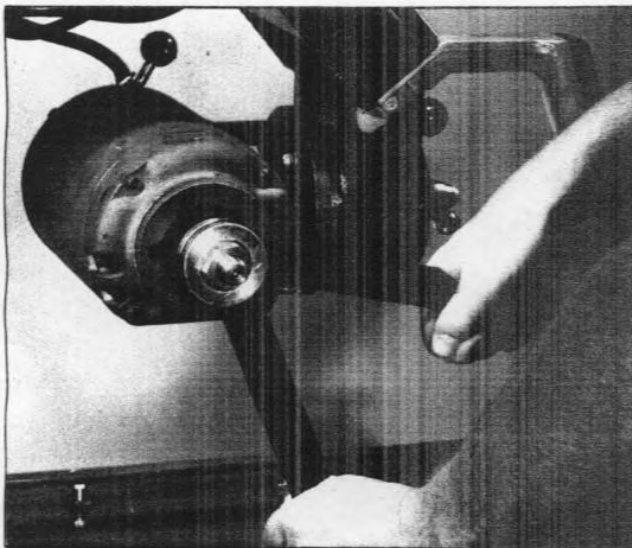

Fig. 9
1. Two wrenches are supplied with your radial saw. Lock the wrench with the large opening between the two arbor collars, as shown in Fig. 9.